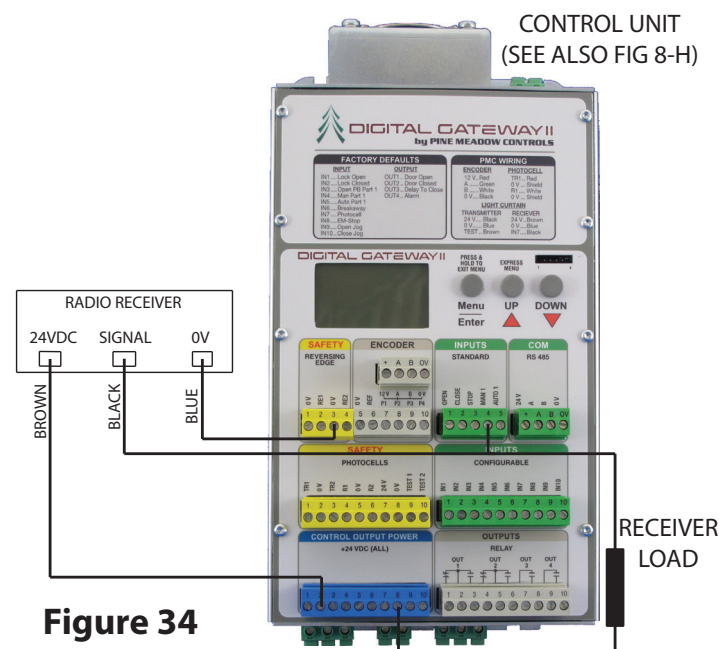

Figure 34
- Install wiring per wiring diagram, see Figure 34 on page 28.
- Wire the Radio receiver directly into the controller (through an available opening), as shown in Figure 34.